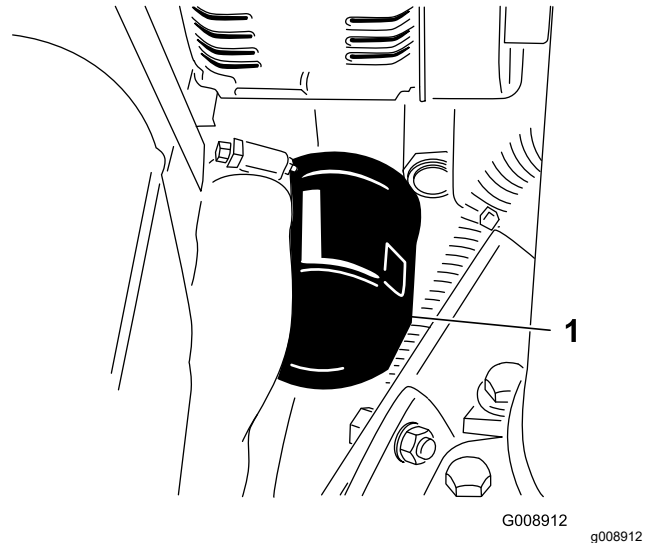

Figure 54
2. Remove the oil filter (Figure 54). Apply a light coat of clean oil to the new filter seal before screwing it on. **Do not overtighten.**